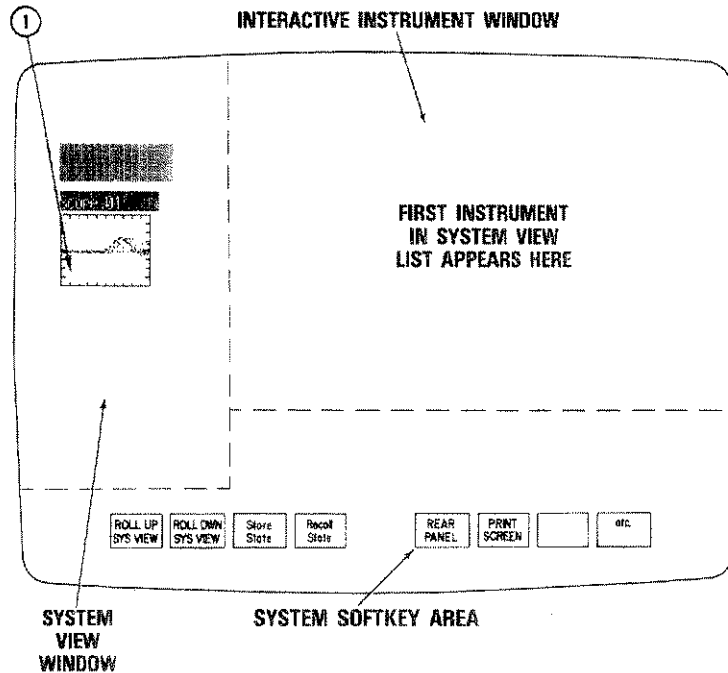

Figure 2-1. Selecting the Instrument
Step 1 - If the Oscilloscope is not already in the Interactive Instrument Window, point to and select SCOPE.01 from the labels listed in the System View Window (see Figure 2-1). If you have many instruments in your system, you may have to use the **ROLL UP SYS VIEW** and **ROLL DWN SYS VIEW** softkeys to view a desired instrument. When you select an instrument from the window, the active indicator on the front of the instrument will light.